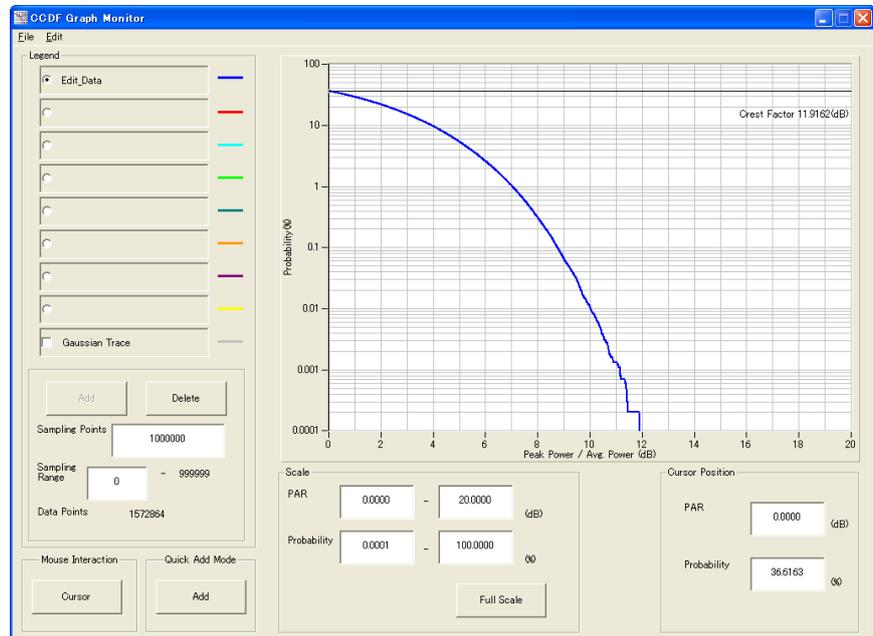

Figure 3.1.4-1 CCDF Graph Monitor screen
2. Click the **[CCDF]** button. The CCDF Graph Monitor screen shown in Figure 3.1.4-1 is displayed with the trace of the generated waveform pattern.